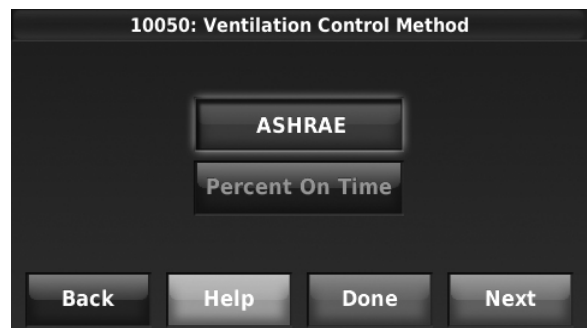

Fig. 250.
3. Select the Ventilation Control Method. See “Ventilation Control Methods (ISU 10050)” on page 112 for more information. See Fig. 250.